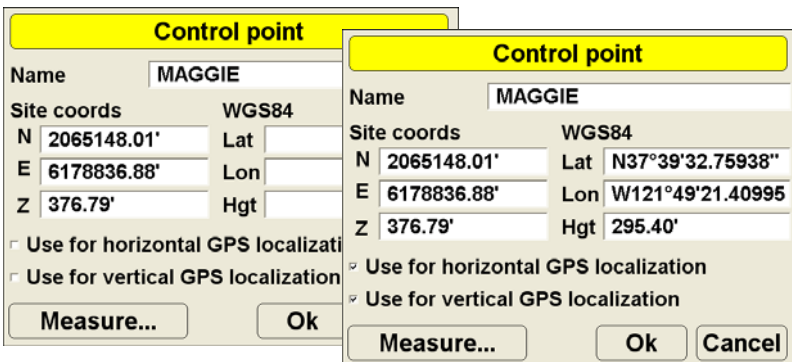

Figure 3-6. Control Point Coordinates Without and With GPS Localization
5. Enter the following information for the control point (Figure 3-6):
- Site coords – enter the coordinates for northing (N), easting (E) and elevation (Z)